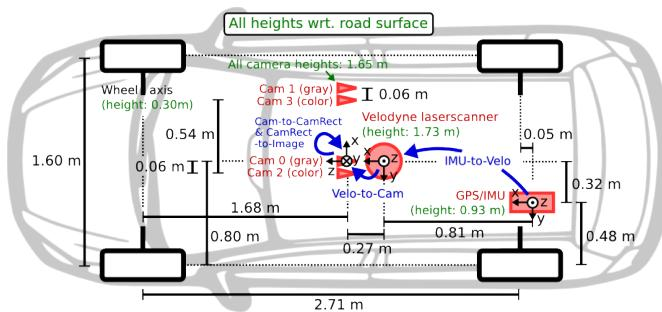

Figure 1: Camera setup.
- **image_2** is the RGB image received from left RGB camera (Cam 2 in Fig.1). A capture by the camera is triggered when the velodyne is looking exactly forward.
3. In this exercise, you have projected LiDAR points onto images. In the setup in Fig.1, the LiDAR sensor and the Cameras are non-cocentered – it can never be exactly non-cocentered. What problem this may cause for the data projection between the two sensors (LiDAR and Cam2 for instance)? Do you think this problem will be more severe or less severe when the two sensors are more distant from each other?